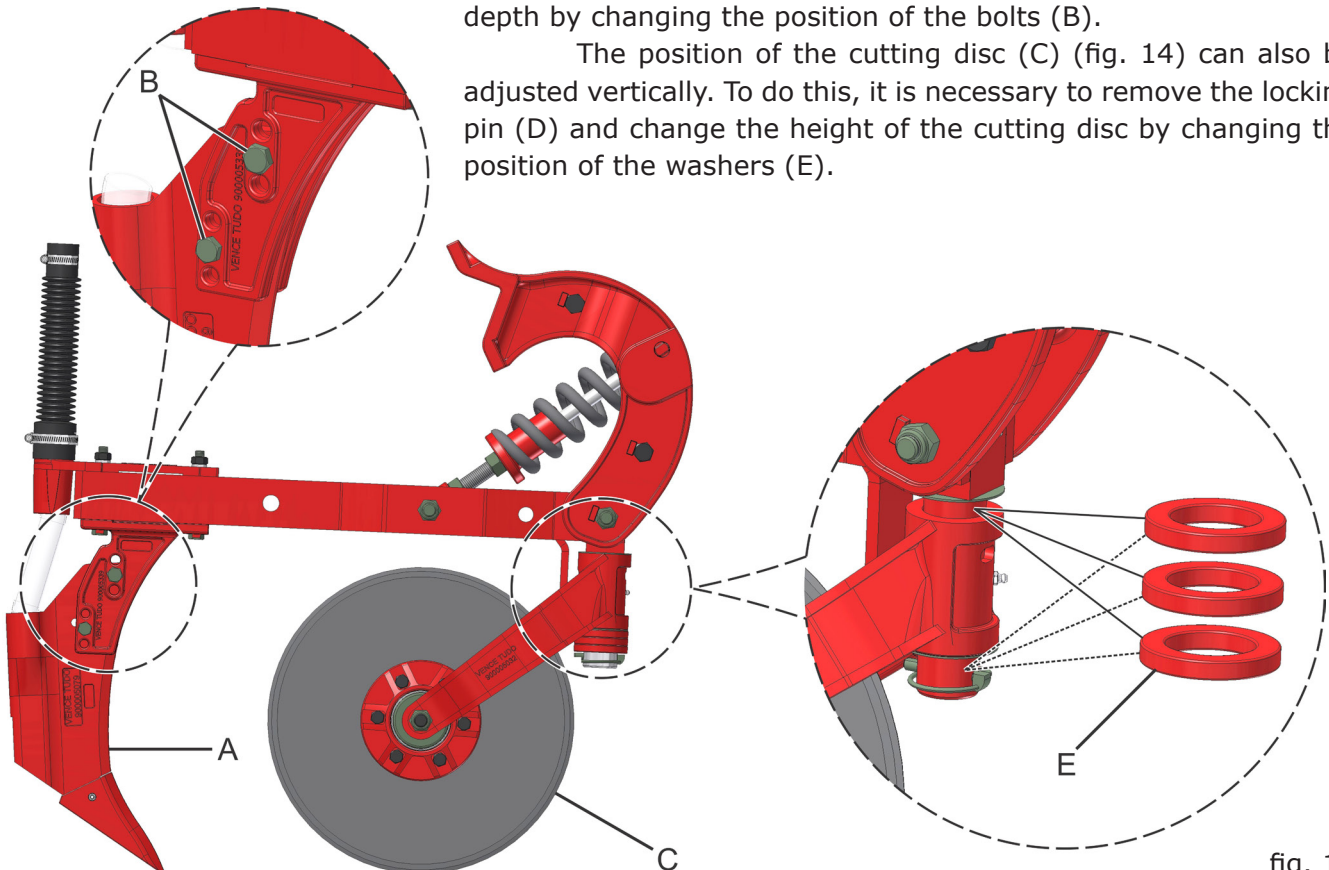

fig. 14
The furrower position can be adjusted vertically. To do this, simply release the furrower knife (A) (fig. 14) and change the furrow depth by changing the position of the bolts (B).
The position of the cutting disc (C) (fig. 14) can also be adjusted vertically. To do this, it is necessary to remove the locking pin (D) and change the height of the cutting disc by changing the position of the washers (E).